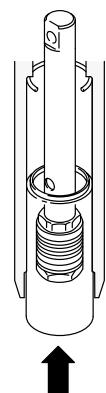

Fig. 33
11. Slide the sleeve/piston rod assembly into the bottom of the cylinder. See Fig. 33.